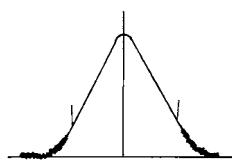

Fig. 4
- (1) Input low level signals (such that noises are mixed together as is shown in Fig. 4) from the sweep generator. Setting the gain to maximum with T101 and T201, adjust the waveform until it appears like that shown in Fig. 4. The ground side of the sweep generator output dummy should be connected to the local oscillator shielded plate.
- (4) Switching the sweep generator to low level, adjust the waveform again with T101 so that it becomes like that shown in Fig. 4.